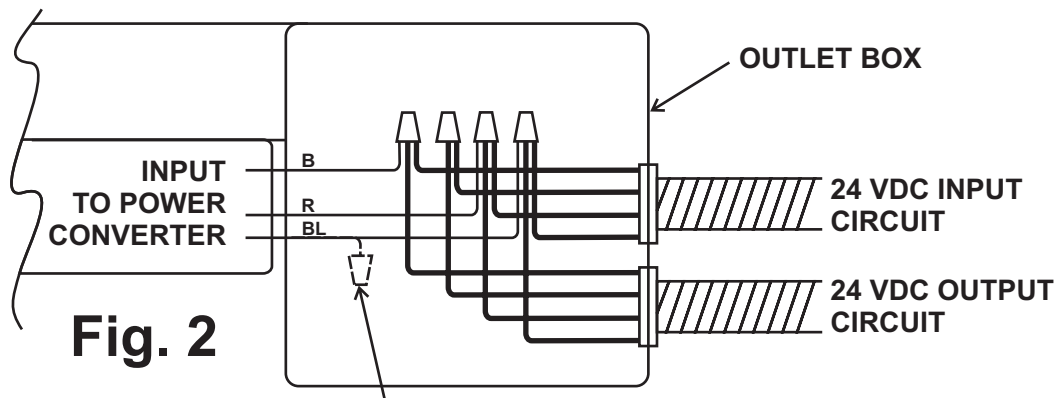

Fig. 2
3. See Fig 2 and connect color-matched 24VDC input/output wiring as shown with standard wire nuts. Cap off BLUE wire from power supply if security lighting is not required.